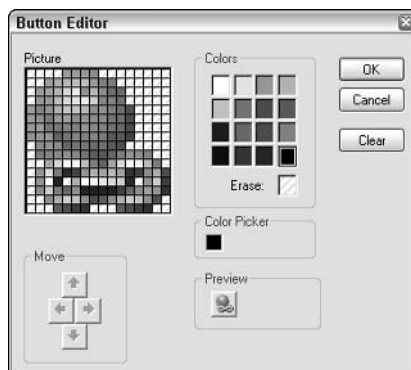

Figure 23-28: The small Preview window helps you see how changes to individual picture pixels will appear on the button image.
2. Select the Edit Button Image command to open the Button Editor dialog box, as shown in Figure 23-28.